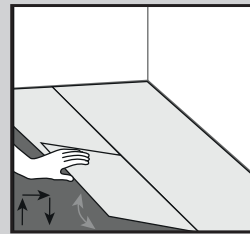
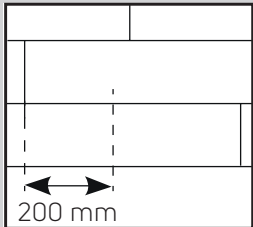
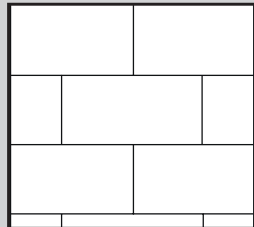

Fig. 3
Fig. 4a
Fig. 4b
Such that four corners never meet. Refer to installation Fig.4a / 4b.
4. Start the second row by clicking the tongue into the groove holding the plank at an angle (approximately 30°), then tap the plank/tile firmly into the groove of the first row. Install the next plank/tile by easing the tongue and groove together on the long side (Fig. 3). Tiles and planks should be installed 'off-set' such that four corners never meet (Fig. 4a and Fig. 4b).